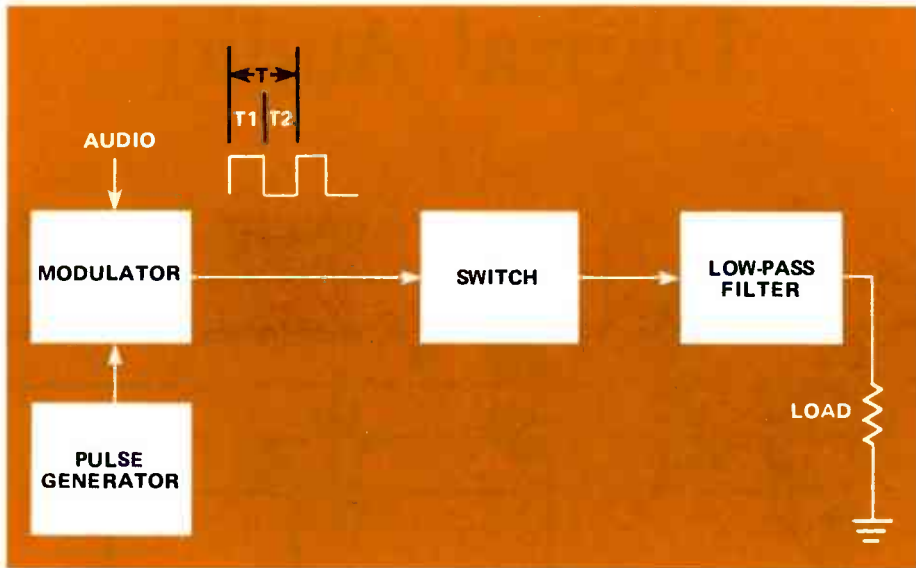

FIGURE 1. DIGITAL AUDIO AMPLIFIER.
In order to have low distortion, the switching rate must be quite high — at least ten times the highest audio frequency to be amplified. Figure 1 shows the basic configuration. The pulse generator generates a square wave with a period "T," made up of two half-cycles of durations "T1" and "T2." In the absence of an audio signal, $T1 = T2 = T/2$ as mentioned above. With an audio signal present, the period (T) remains the same, but T1 and T2 change so that there is an unequal time